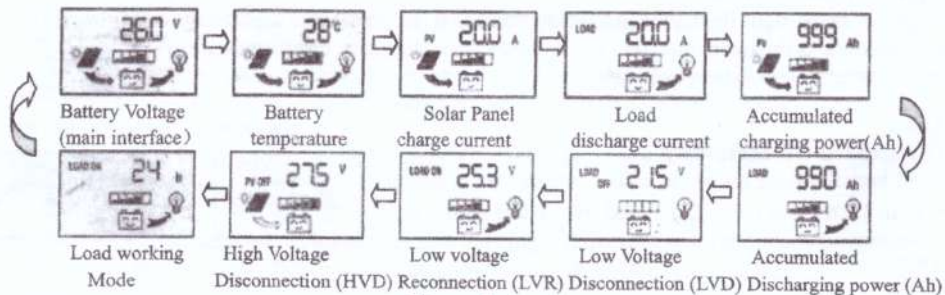

Figure 1
-  : Interfaces circular toggling button. Use this button can realize the toggling circularly among the interfaces. The circular order is as follows: as shown as figure 1